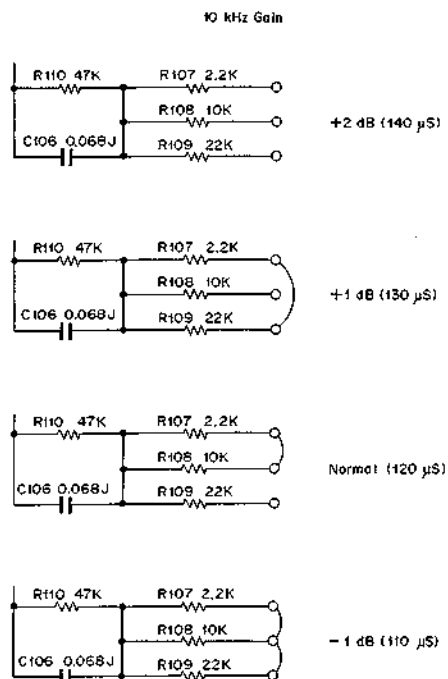
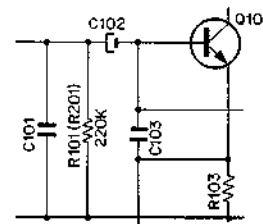

Fig. 6.20 Playback Equalizer Adjustment
Fig. 6.21 PB Head Amp. Peaking Compensation
- (1) Open 22 k $\Omega$  of R109,209 of the PB Head Amp. P.C.B. (EQ and time constant shall show 120  $\mu$ s).
- (2) Load a 400 Hz Level Tape (DA09005A) to playback, and turn the output level controls till the indication of the VTVM shows 0 dB (for example) or easy reference of value.
- (3) Load a 10 kHz PB Frequency Response Tape (DA09003A) and play it back.
- (4) Check the output of 10 kHz and then, referring to Fig. 6.20, adjust EQ in the range of 110  $\mu$ s – 140  $\mu$ s, the result of which shall be 0 to + 3 dB.
- (5) Load a 15 kHz PB Frequency Response Tape (DA09002A) and play it back.
- (6) If the output of 15 kHz shows the value within  $\pm$  2 dB against 400 Hz Level Tape, it is considered satisfactory.
- (7) Load a 20 kHz PB Frequency Response Tape (DA09001A) and play it back.
- (8) If 15 kHz at (5) shows the value within  $\pm$  2 dB and 20 kHz being less than -3 dB, replace the playback head.
- (9) Adjustment shall be made so that the level at 10 kHz, 15 kHz and 20 kHz will become flat when compared with 400 Hz.
- (10) If the results are shown to belong to high, set R101,201 to open – 100 k $\Omega$ . Refer to Fig. 6.21.
- (11) Adjust the azimuth alignment to the maximum output with a 15 kHz Azimuth Tape (DA09004A).